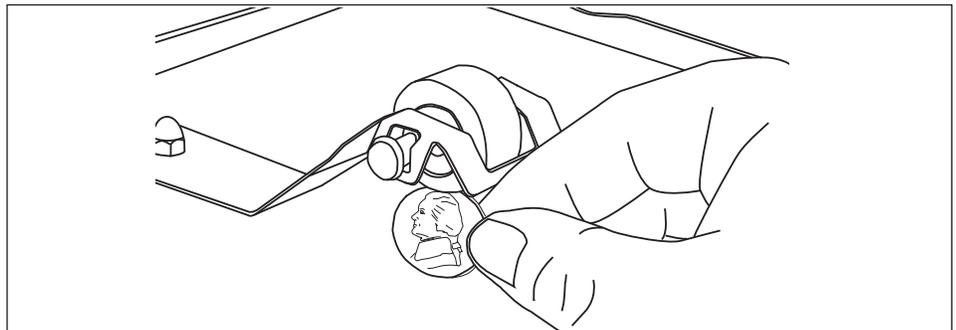

Figure 11. Measuring Roller Tensioner
**NOTE:** As of March 2017, the Interlock Switch was removed from use. If your toaster has the Interlock Switch (Figure 11), you will need to place the Heat Shield onto the toaster in order for the conveyors to turn. If your toaster does not have an Interlock Switch, the conveyors will turn as long as the unit is on.
1. Measure the Roller Tensioner on both inner Conveyor Covers (Figure 11) using a U.S. Nickel.